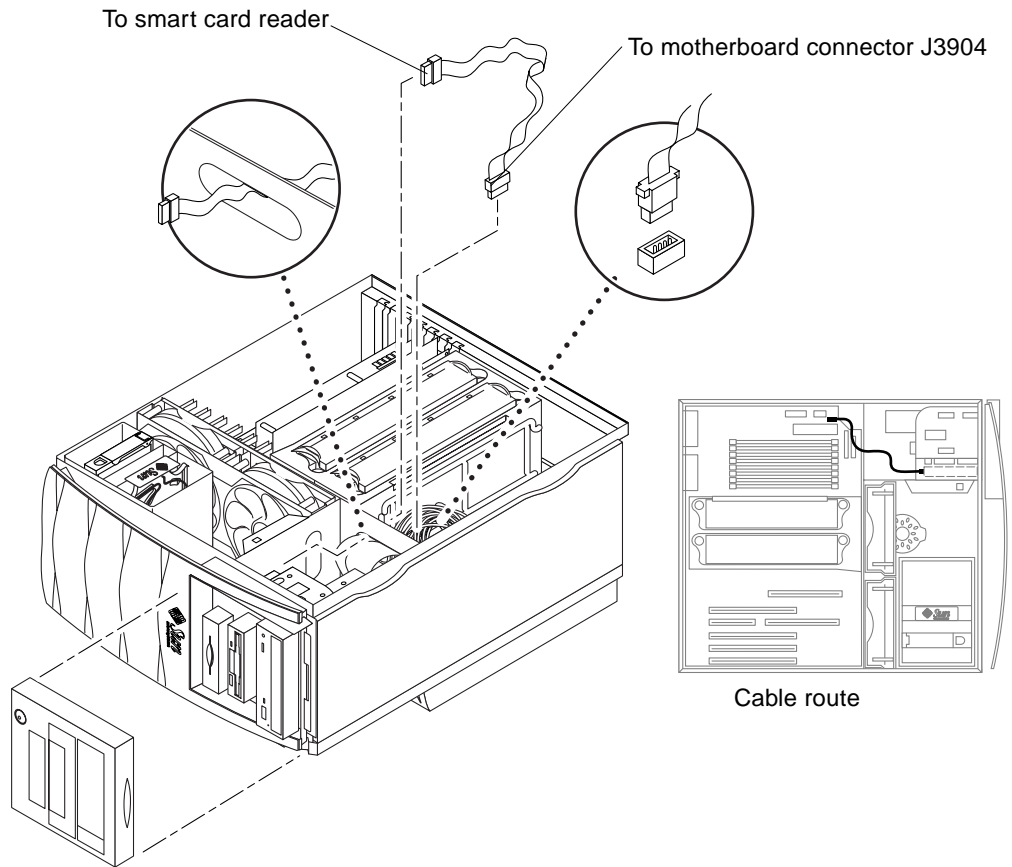

FIGURE 6-9 Removing and Replacing the Smart Card Reader Cable Assembly
- 2. Disconnect the smart card reader cable assembly from the smart card reader (FIGURE 6-9).**
1. Position the smart card reader cable assembly in the chassis (FIGURE 6-9).